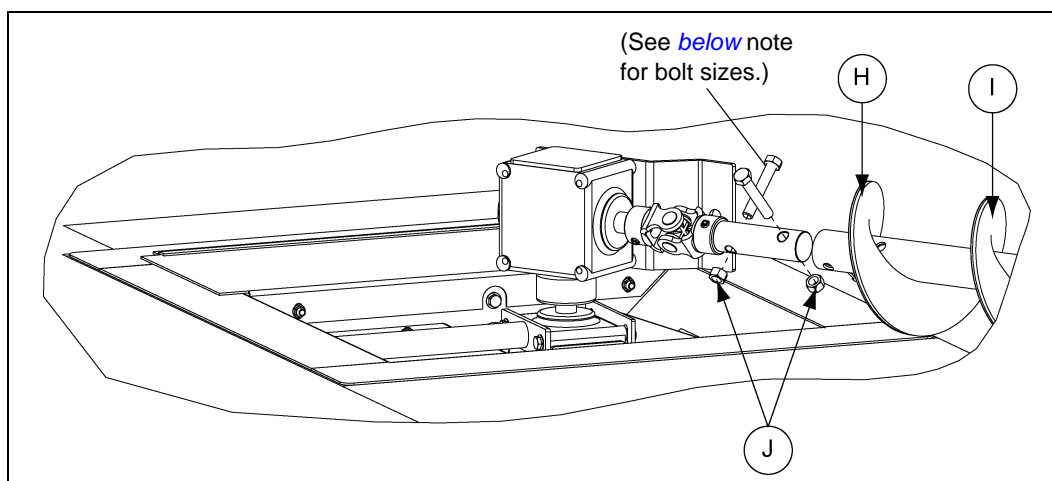

Figure 4Z
4. Attach a flighting section to the U-joint stub located on the gearbox. Making sure that the Dura-Edge® side of the flight faces the center of the bin. Secure it with bolts and stover nuts. (See Note for Bolt Size and Figure 4Z.)